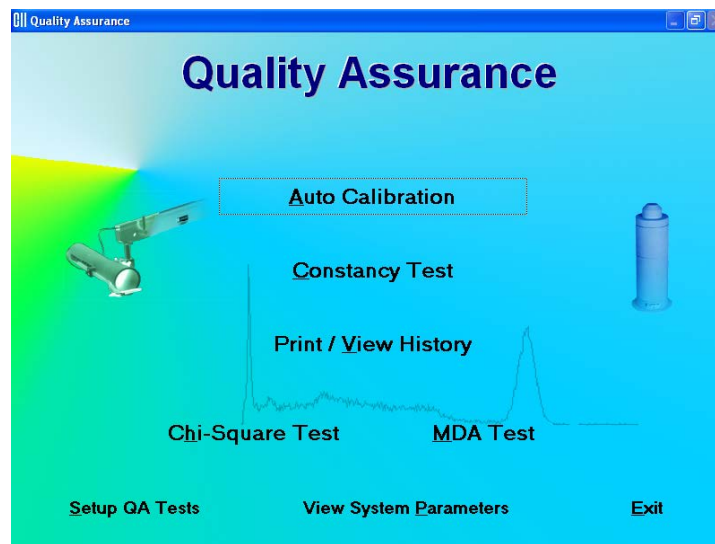
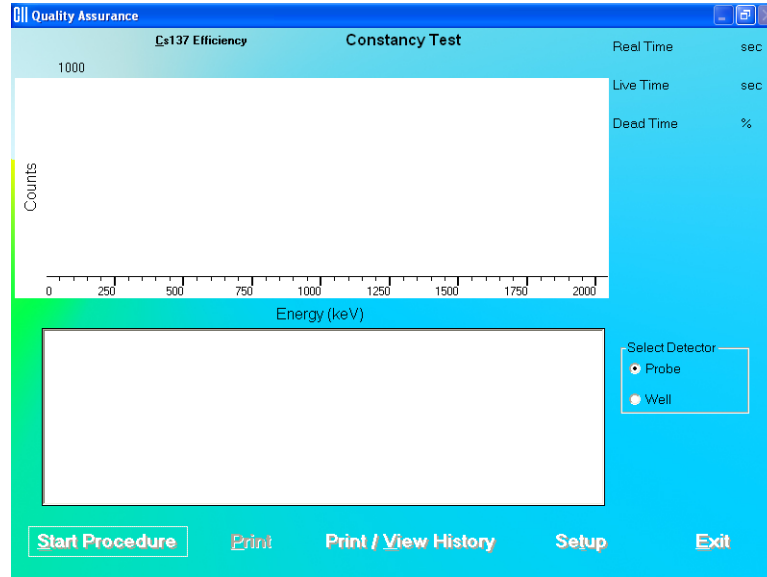

Figure 5-1 Quality Assurance Main Screen
Figure 5-11 Constancy Test Main Screen
To access the QA tests, click the **Quality Assurance** button or press *Alt+Q* on the CAPTUS® 3000 Main screen. Figure 5-1 Quality Assurance Main Screen appears as shown.
The following tests require setting up parameters prior to performing the test: Constancy Test, Chi-Square Test and MDA Test. This can be done via the QA Setup screen, which is accessible through the **Setup QA Tests** button at the bottom of Figure 5-1 Quality Assurance Main Screen or through the **Setup** button provided on all QA Test screens.
1. Click the **Setup QA Tests** button or press *Alt+S* on Figure 5-1 Quality Assurance Main Screen. Figure 5-2 Quality Setup Screen appears as shown.
5. Click the **Done** button or press *Alt+D* to save the changes or click the **Cancel** button to cancel the changes made and return to Figure 5-1 Quality Assurance Main Screen.
- Rest your mouse close to each module title on Figure 5-1 Quality Assurance Main Screen to read a brief description of that function.
- Keep a record of the parameters set above. To do so, click the **View System Parameters** button on Figure 5-1 Quality Assurance Main Screen and click the **Print** button.
1. Click the **Auto Calibration** button or press *Alt+A* on Figure 5-1 Quality Assurance Main Screen. Figure 5-3 Auto Calibration Screen will appear. When the procedure is started, the spectrum appears in the upper half of the screen as it is being collected and displays the measurement time elapsed in the upper right corner. Note that the **Cs137 Efficiency** button at the top of the screen is enabled only after calibration has been done at least once on that day.
16. Click the **Exit** button or press *Alt+E* to exit and return to Figure 5-1 Quality Assurance Main Screen.
1. Click the **Constancy Test** button or press *Alt+C* on Figure 5-1 Quality Assurance Main Screen. Figure 5-11 Constancy Test Main Screen will appear.